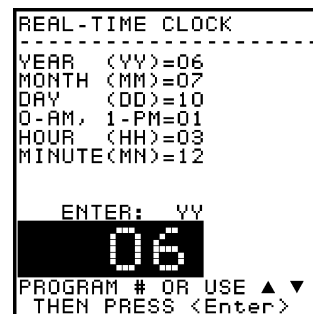

Figure 8.3.4: Real-Time Clock Set Up Screen
- (1) The data entered by the user is checked by the pump. For example, 30 is an invalid entry for Days in February, and 13 is an invalid entry for Hour, etc.
- (2) The current clock data is displayed (See Figure 8.3.4). All data must be entered. The **Stop** key aborts programming. The **Go Back** key can be used to return to the previous data entry.
- (3) The system returns to MAIN MENU when the clock data has been entered.